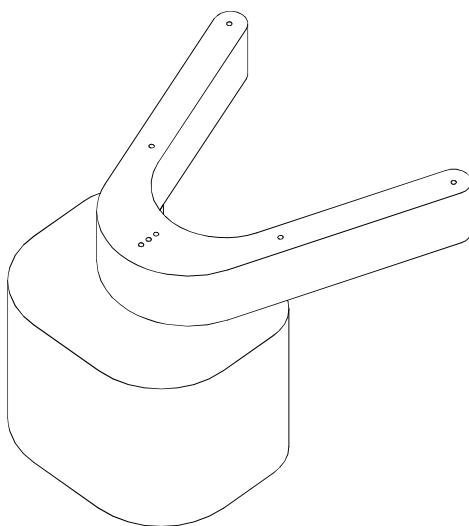

Figure 6-14
2. Place the centering tool (P/N 6107900200 - Figure 6-14) on the chin rest and set 66kV - 6mA.